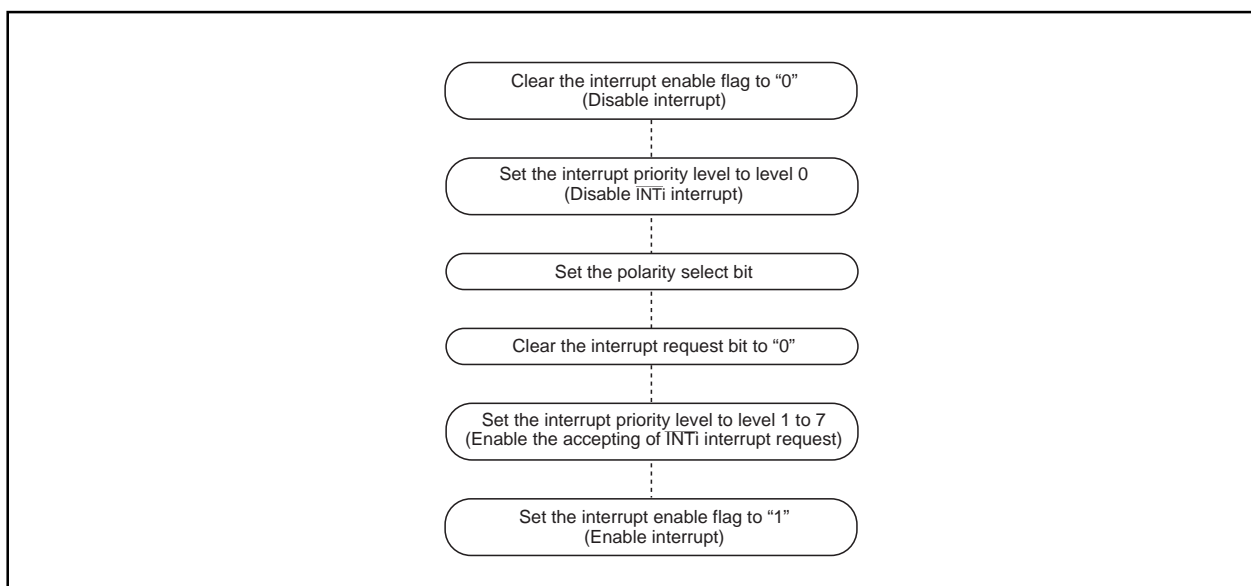

Figure 1.13.12. Switching condition of INT interrupt request
- When the polarity of the  $\overline{\text{INT0}}$  to  $\overline{\text{INT2}}$  pins is changed, the interrupt request bit is sometimes set to "1". After changing the polarity, set the interrupt request bit to "0". Figure 1.13.12 shows the procedure for changing the  $\overline{\text{INT}}$  interrupt generate factor.